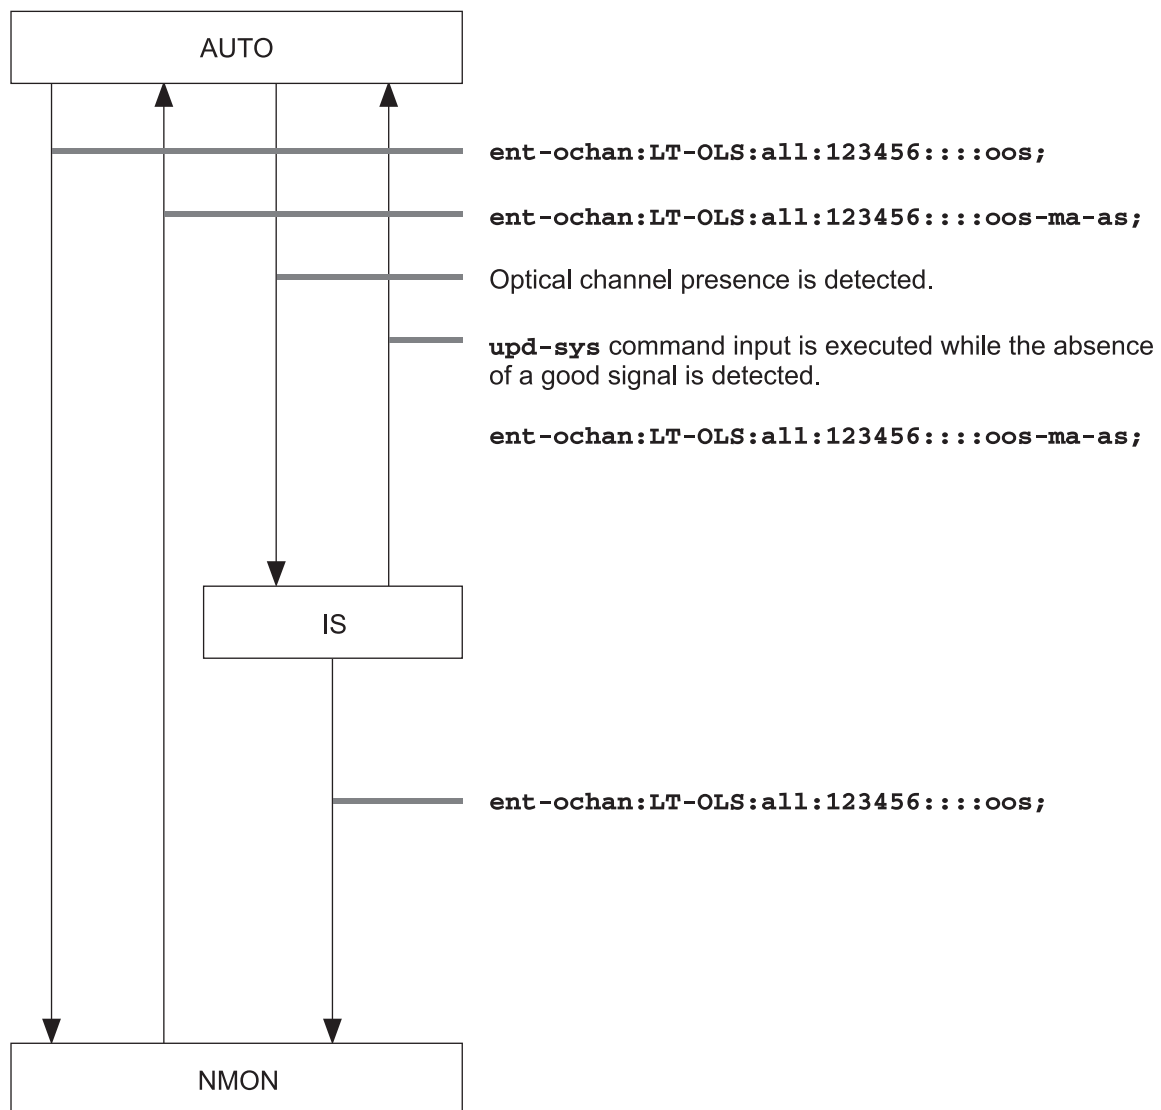

Figure C-2. Optical Channel States
■ Figure C-2: Optical Channel States	C-4